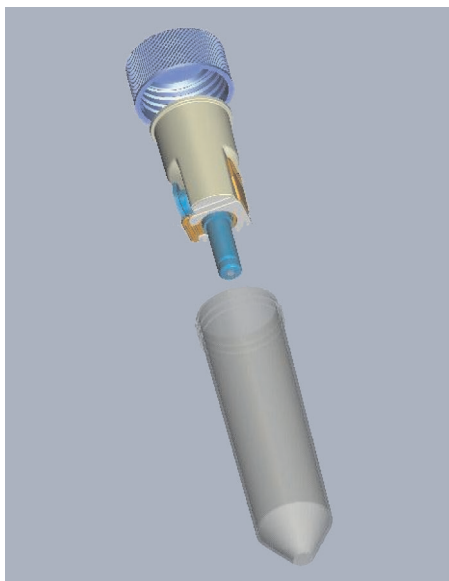

Fig. 2: Unscrew the 50 mL polypropylene tube and remove the High Pure Extender Assembly from the 50 mL polypropylene tube.
- 5 Remove the High Pure Filter Tube from the High Pure Extender Assembly (see Figures 2 to 6).
⚠ We do not recommend the use of fixed-angle rotors in combination with the High Pure Extender Assembly. However, if you decide to use a centrifuge with fixed-angle rotors, do not centrifuge the High Pure Extender Assembly above $3,000 \times g$. The use of fixed-angle rotors results in incomplete flow of the liquid through the Assembly. The remaining sample solution therefore stays within the High Pure spin column Filter Tube. Remove this remaining liquid by an additional spin of the High Pure Filter Tube in a benchtop centrifuge before the first washing step. For this additional spin, remove the High Pure Spin Column from the High Pure Extender Assembly, according to Figures 2 to 6.